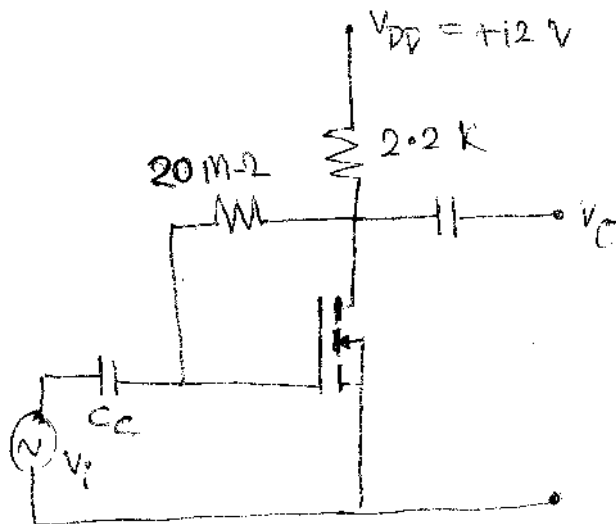

Fig. 5
- 8. A) For the circuit in fig. 5, calculate the following